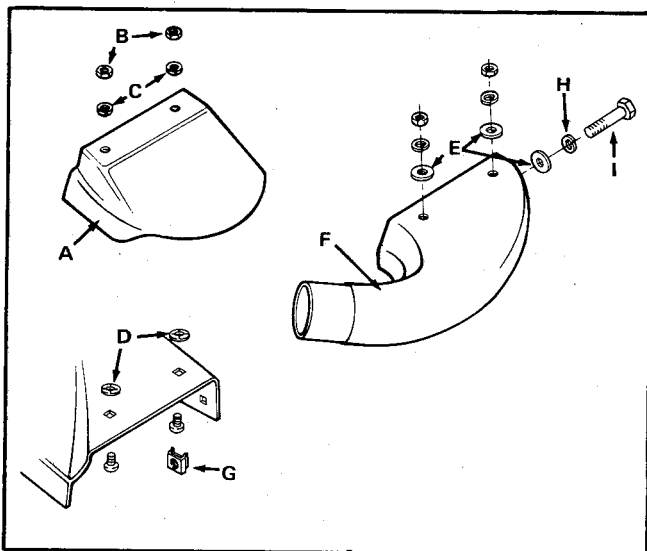

Figure 1. Installing 36" Adapter
1. To remove the mower deflector, remove the nuts and lockwashers (items B and C, figure 1) which hold it in place. These will be used again.